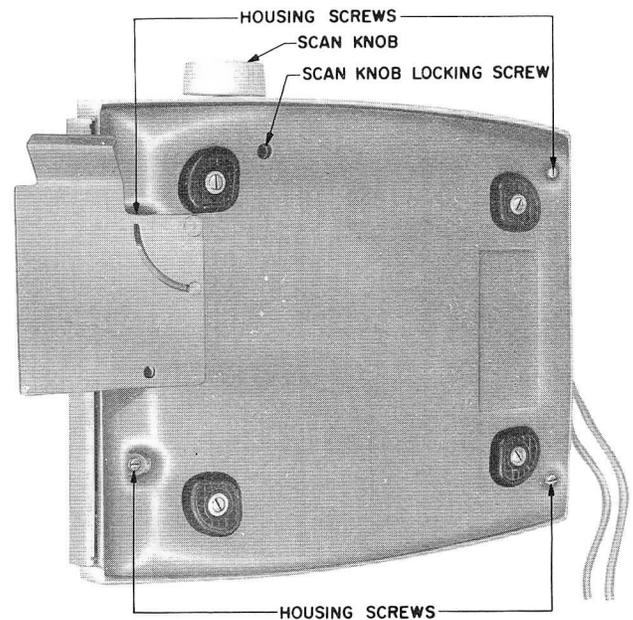

Fig. 6 - Rapidual Inverted
- (1) Place housing on Rapidial, (After removing fill washers at scan knob opening in housing, if provided) positioning front portion of housing first; then lower into place.
- (2) Invert Rapidial, place the four housing screws into holes provided in base, and tighten (Fig. 6).
(3) With Rapidual inverted, insert scan knob into position, making certain it properly engages tape assembly (Fig. 6 and 9).
(4) To lock scan knob to tape assembly, insert locking screw through hole provided in base and tighten (Fig. 6).
- (1) Connect to power outlet.
- (2) Position Rapidual upside down. (Be sure to protect cover from scratches.)
- (3) Start bar adjustment screw can be reached through base of Rapidual by aligning hole in the instruction card with hole in base (Fig. 6).
- (4) Using a 3-1/2 inch screwdriver, turn screw clockwise and revolve scan knob until a clicking sound is heard.
- Invert Rapidial, loosen scan knob locking screw, and remove scan knob (Fig. 6).